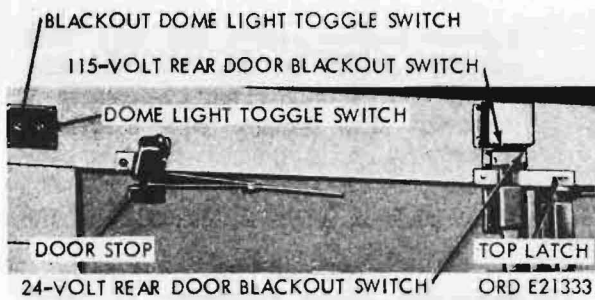

Figure 64. Van body rear interior panel
- (4) Blackout dome-light toggle switch (fig. 64). This switch, located on the upper rear panel inside the body, controls the 24-volt dome lights in the blackout condition.
- (5) Dome-light toggle switch (fig. 64). This switch, located on the upper rear panel inside the body, controls the 24-volt dome lights under normal conditions.